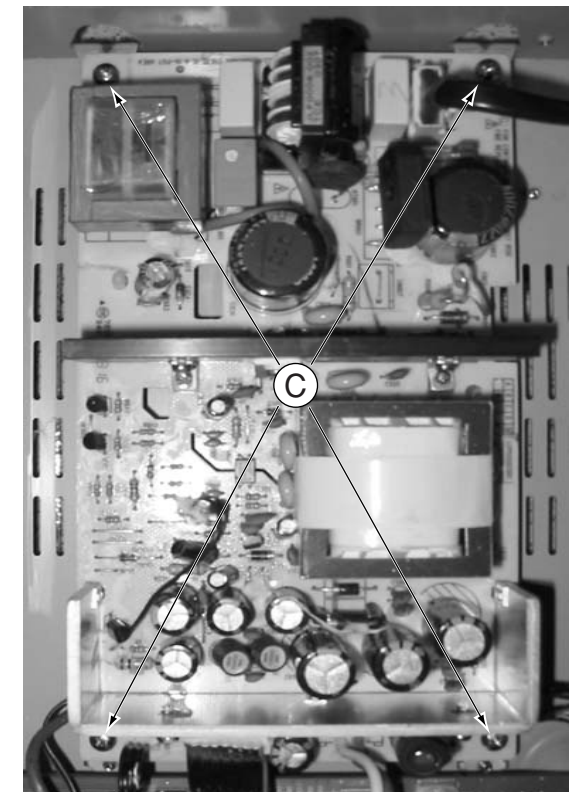

Figure 6
3) Loosen 4 screws "C" at the top of the Power Board as shown in figure 6